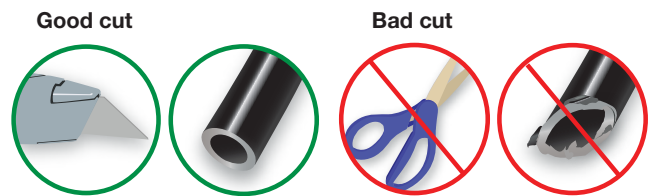

Fig. 17
2. Cut the air line in half. Make clean, square cuts with a razor blade or hose cutter (Fig. 17). Do not use scissors or wire cutters.